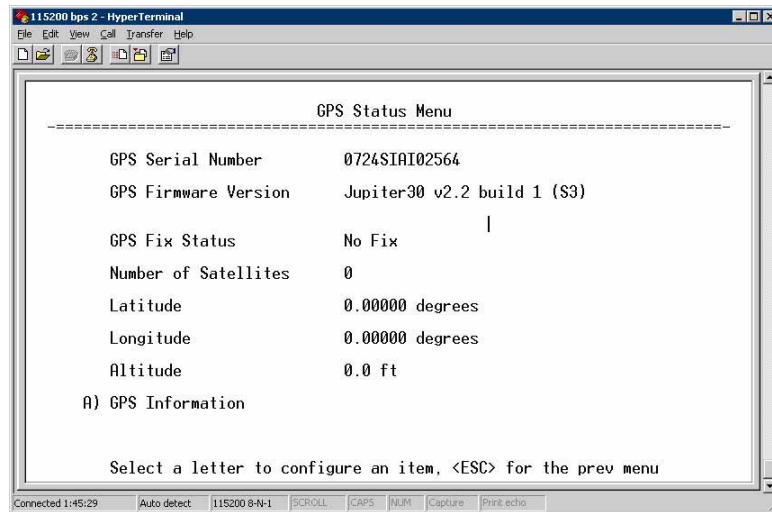

Figure 3-77. GPS Status Menu
- ¥ **GPS Status** □ Shows satellite fix status, number of satellites being received, and unit location data. (See Figure 3-77 on Page 107 for details.)